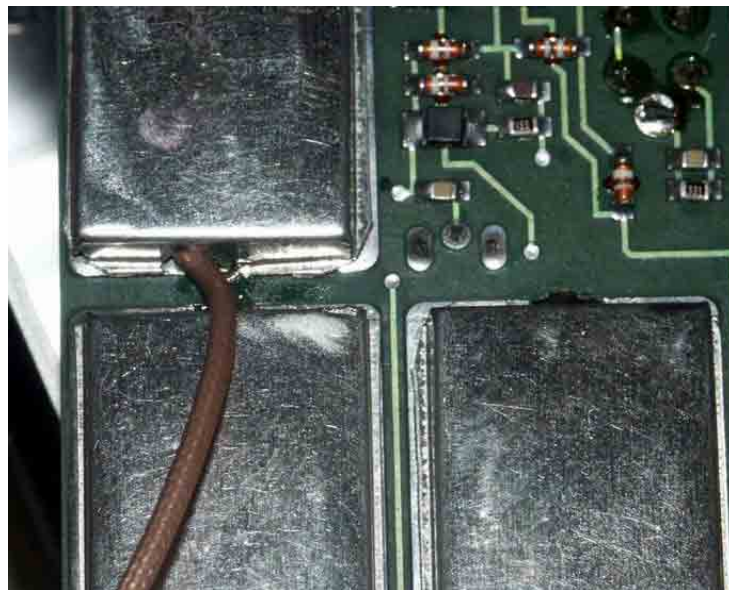

Figure 6: Coax Exiting Shield
10. The existing hole in the shield, adjacent to the solder tab, must be carefully enlarged to accommodate the coax (Figure 6). Reseat the shield and re-solder the two tabs.